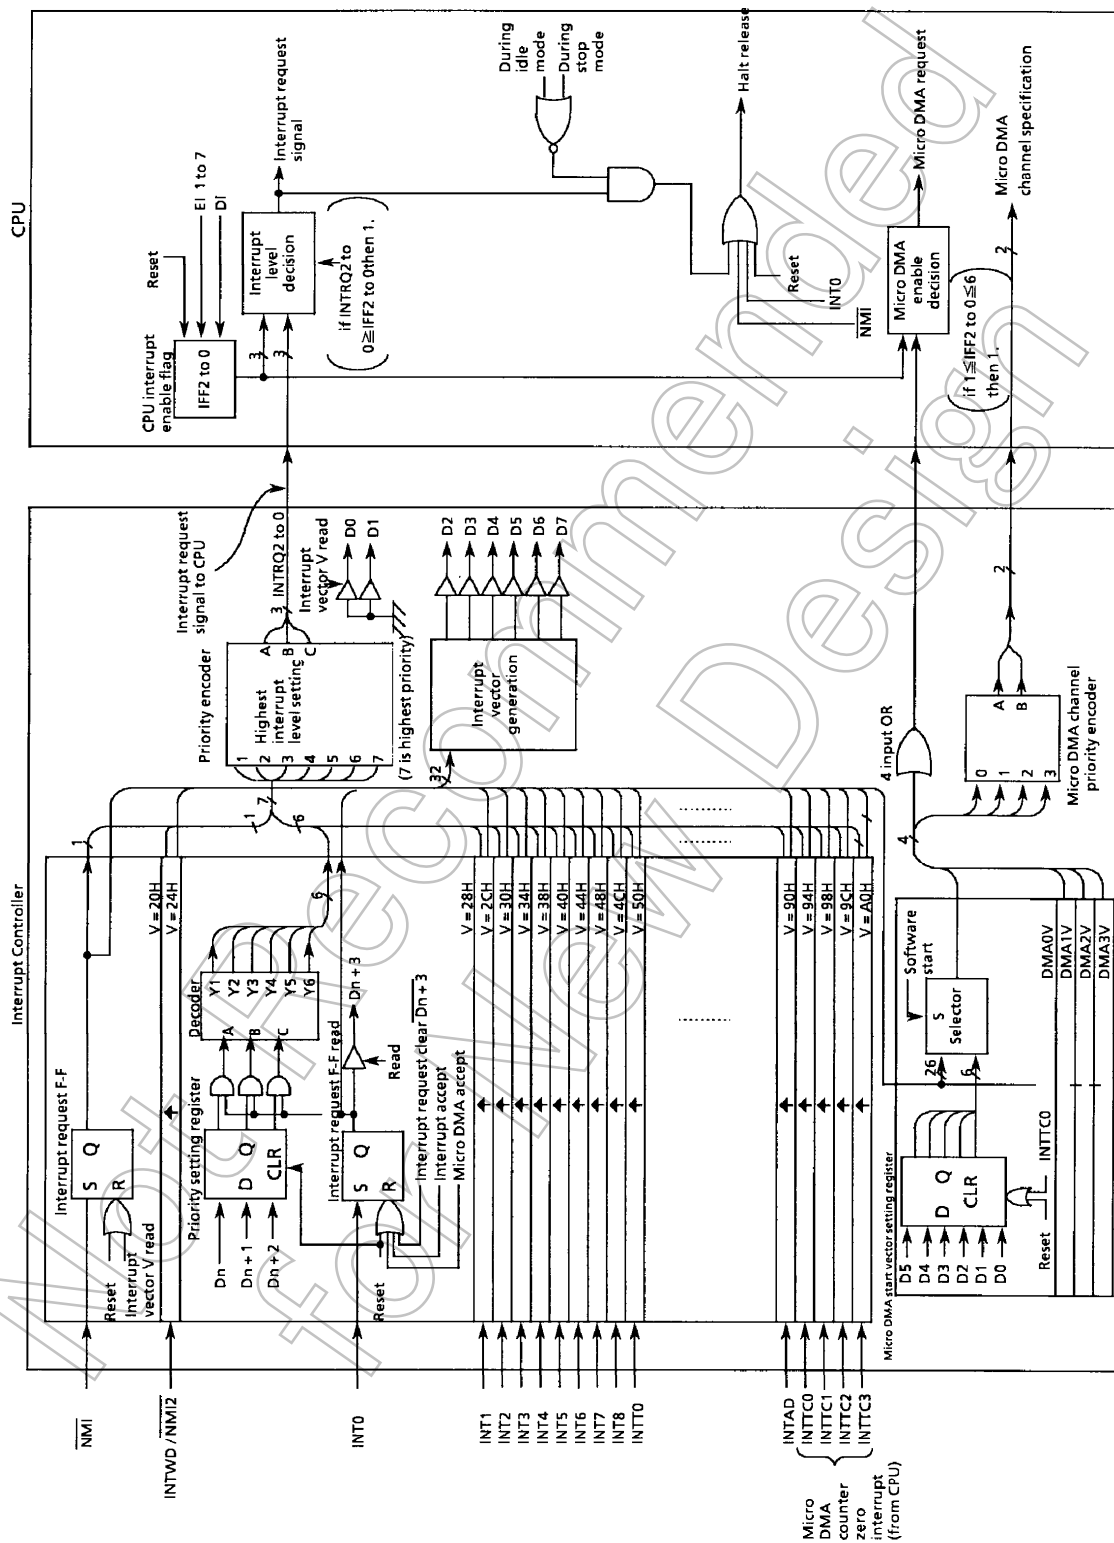

Figure 3.3.3 (1) Interrupt Controller Block Diagram
Figure 3.3.3 (1) is a block diagram of the interrupt circuit. The left-hand side of the diagram shows the interrupt controller circuit. The right-hand side shows the CPU interrupt request signal circuit and the halt release circuit.